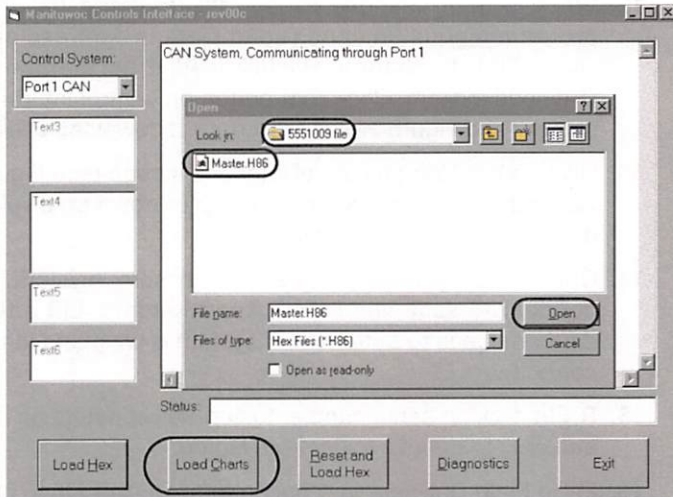

FIGURE 21
9. Locate and click **Master.H86** icon to select file and then click on **Open** button (see Figure 21). The hex file will now download into the bus system. While loading the file, the screen will display rows of squares and the status bar will indicate address of download. When the controls interface **MCC Controls App.** displays **Process Complete/Timed Out** the files are fully loaded and the screen closes automatically.